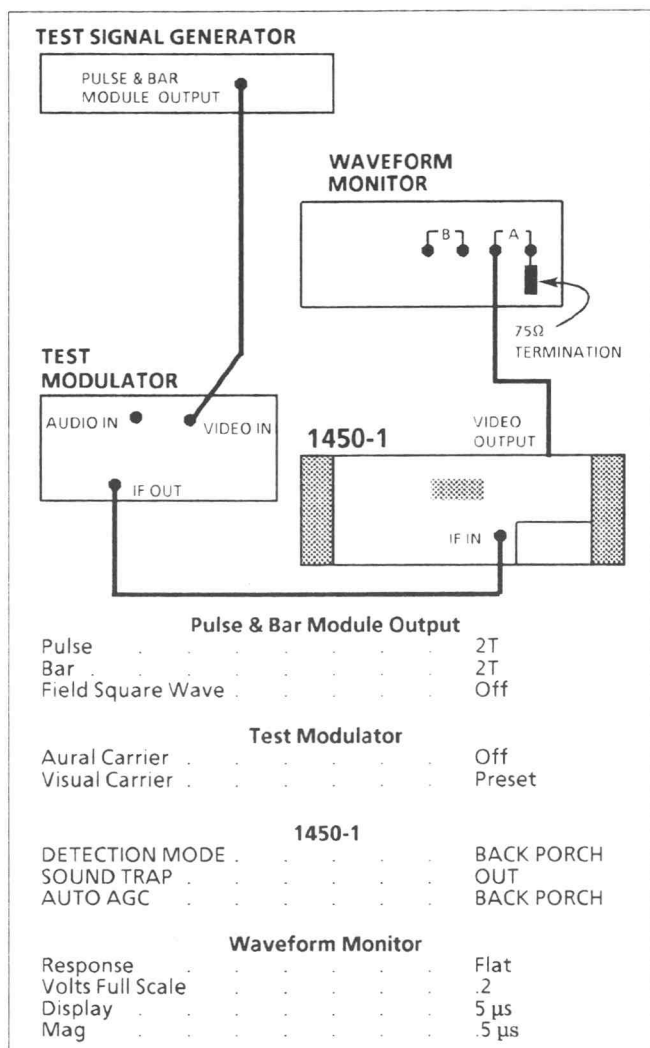

Fig. 4-52. Setup for adjusting quadrature carrier phase.
- Connect and set the test equipment as shown in Fig. 4-52.